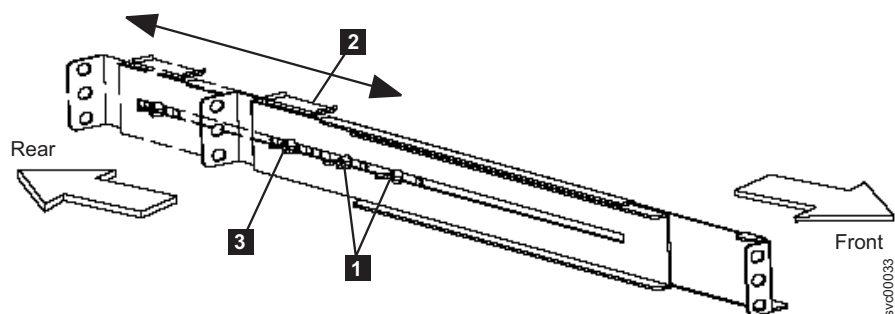

Figure 152. Adjusting the rail depth on the 2145 UPS-1U
3. Loosen the assembly wing nuts (see **1** in Figure 152) on both rail assemblies and adjust the rail size to the depth of your rack.
4. Position the rear, hold-down bracket **2** towards the end of the rail assemblies and tighten the wing nut **3**. See Figure 152.